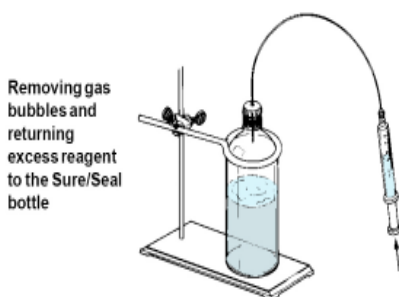

Fig. 2B Removing gas bubbles and returning excess reagent to the Sure/Seal bottle
- Let nitrogen pressure push the plunger to reduce bubbles. Excess reagent and entrained bubbles are then forced back into the reagent bottle as shown in **Fig. 2B**.